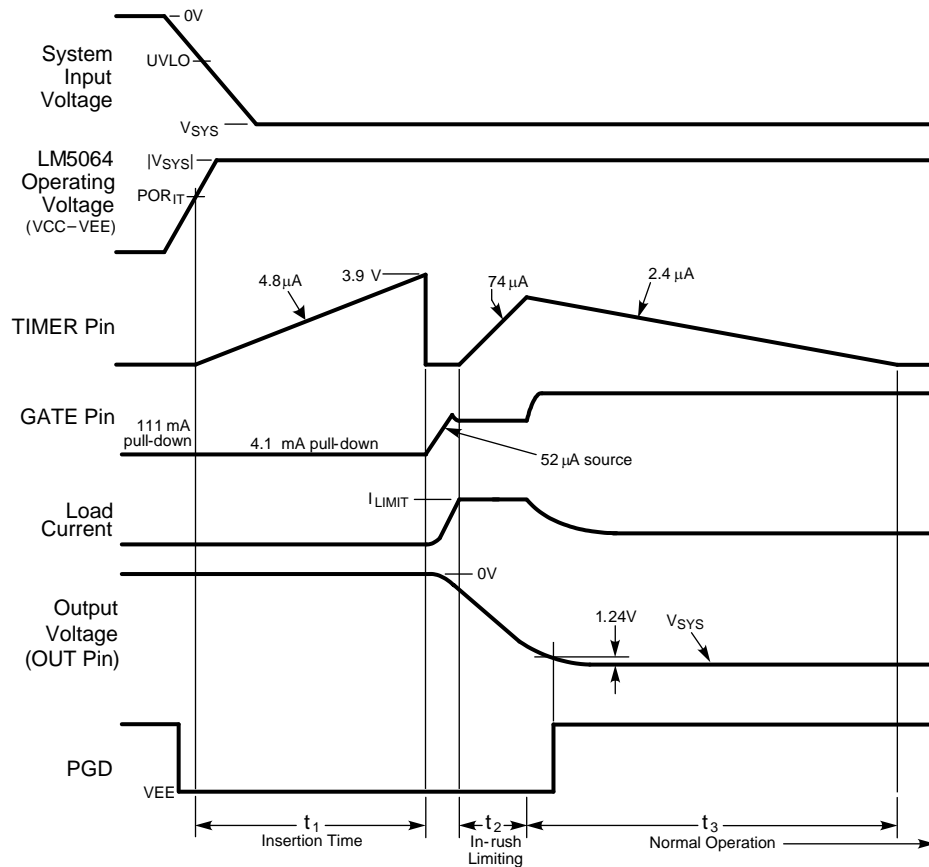

Figure 2. Power Up Sequence
Referring to Figure 2, as the system voltage (V_{SYS}) initially increases, the external N-channel MOSFET (Q_1) is held off by an internal 111 mA pull-down current at the GATE pin. The strong pull-down current at the GATE pin prevents an inadvertent turn on as the MOSFET’s gate-to-drain (Miller) capacitance is charged. Additionally, the **TIMER** pin is initially held at VEE. When the operating voltage of the LM5064 (VCC - VEE) reaches the **POR_{IT}** threshold, the insertion time begins. During the insertion time, the capacitor at the **TIMER** pin (C_T) is charged by a 4.8 μ A current source, and Q_1 is held off by a 4.1 mA pull-down current at the GATE pin regardless of the input voltage. The insertion time delay allows ringing and transients on V_{SYS} to settle before Q_1 is enabled. The insertion time ends when the **TIMER** pin voltage reaches 3.9V. C_T is then quickly discharged by an internal 1.5 mA pull-down current. The GATE pin then switches on Q_1 when the operating voltage exceeds the UVLO threshold. If the operating voltage is above the UVLO threshold at the end of the insertion time, (t_1 in Figure 2) the GATE pin sources 52 μ A to charge the gate capacitance of Q_1 . The maximum voltage on GATE is limited by an internal 12.6V zener diode to VEE.
As the voltage at the OUT pin transitions to V_{SYS} , the LM5064 monitors the drain current and power dissipation of MOSFET Q_1 . In-rush current limiting and/or power limiting circuits actively control the current delivered to the load. During the in-rush limiting interval (t_2 in Figure 2), an internal 74 μ A fault timer current source charges C_T . If Q_1 ’s power dissipation and the input current reduce below their respective limiting thresholds before the **TIMER** pin reaches 3.9V, the 74 μ A current source is switched off, and C_T is discharged by the internal 2.4 μ A current sink (t_3 in Figure 2). The in-rush limiting will no longer engage unless a current-limit condition occurs.
A current source provides the charge at the GATE pin to enhance the N-Channel MOSFET's gate (Q_1). During normal operating conditions (t_3 in Figure 2) the gate of Q_1 is held charged by an internal 52 µA current source. The GATE pin peak voltage is roughly 12.6V, which will force a V_{GS} across Q_1 of 12.6V under normal operation. When the system voltage is initially applied, the GATE pin is held low by a 111 mA pull-down current. This helps prevent an inadvertent turn on of Q_1 through its drain-gate capacitance as the applied system voltage increases.
During the insertion time (t_1 in Figure 2), the GATE pin is held low by a 4.1 mA pull-down current. This maintains Q_1 in the off-state until the end of t_1 , regardless of the voltage on V_{SYS} or UVLO/EN. Following the insertion time, during t_2 in Figure 2, the gate voltage of Q_1 is modulated to keep the current or power dissipation level from exceeding the programmed levels. While in the current or power limiting mode, the TIMER pin capacitor is charging. If the current and power limiting cease before the TIMER pin reaches 3.9V, the TIMER pin capacitor then discharges, and the circuit begins normal operation. If the in-rush limiting condition persists such that the TIMER pin reached 3.9V during t_2 , the GATE pin is then pulled low by the 4.1 mA pull-down current. The GATE pin is then held low until either a power up sequence is initiated (RETRY pin to VDD), an automatic retry is attempted (RETRY pin to VEE or floating), or a PMBus ON/OFF command is initiated. See the Fault Timer & Restart section. If the operating voltage falls below the UVLO threshold, or rises above the OVLO threshold, the GATE pin is pulled low by the 4.1 mA pull-down current to switch off Q_1 .
When the current limit or power limit threshold is reached during turn-on, or as a result of a fault condition, the gate-to-source voltage of Q_1 is modulated to regulate the load current and power dissipation in Q_1 . When either limiting function is active, a 74 μ A fault timer current source charges the external capacitor (C_T) at the TIMER pin as shown in Figure 2 (Fault Timeout Period). If the fault condition subsides during the Fault Timeout Period before the TIMER pin reaches 3.9V, the LM5064 returns to the normal operating mode and C_T is discharged by the 1.5 mA current sink. If the TIMER pin reaches 3.9V during the Fault Timeout Period, Q_1 is switched off by a 4.1 mA pull-down current at the GATE pin. The subsequent restart procedure then depends on the selected retry configuration.
A) Insertion Delay -Upon applying the system voltage (V_{SYS}) to the circuit, the external MOSFET (Q₁) is held off during the insertion time (t_i in Figure 2) to allow ringing and transients at V_{SYS} to settle. Since each backplane's response to a circuit card plug-in is unique, the worst case settling time must be determined for each application. The insertion time starts when V_{SYS} reaches the POR threshold, at which time the internal 4.8 μA current source charges C_T from 0V to 3.9V. The required capacitor value is calculated from: